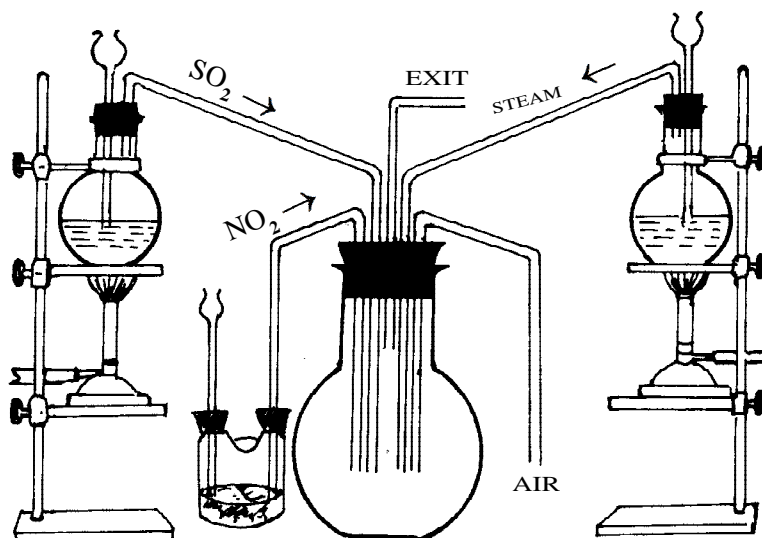

Fig. 8.7 Preparation of H_2SO_4
- (iii) **Description :** A large flask fitted with a rubber cork through which five glass tubes are inserted is taken. Four of these tubes reach near the bottom of the flask, while the fifth is a short one and acts as an exit tube. (Fig.8.7) Air is introduced through the first tube into the flask and then nitric oxide is passed through the second tube by connecting it with a Woulfe's bottle in which the gas is generated by the action of moderate concentrated nitric acid on copper till red fumes are formed. Sulphur dioxide is prepared in another flask by the action of conc. H_2SO_4 on copper and the gas is passed through the third tube. The red fumes, first formed (NO_2) disappears. At this stage steam is passed through the fourth tube. Steam reacts with SO_3 producing sulphuric acid which collects at the bottom of the flask as an oily liquid.